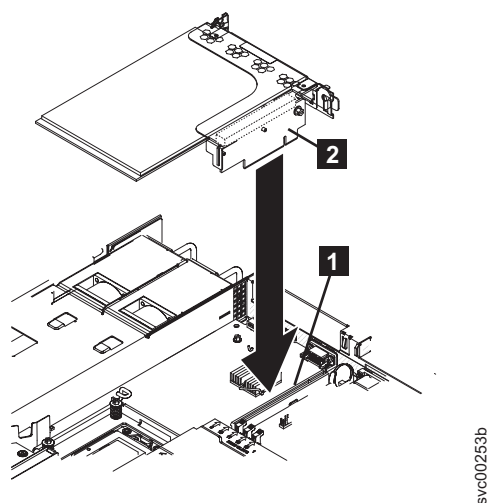

Figure 190. Replacing the high-speed SAS riser-card assembly for the SAN Volume Controller 2145-CF8
3. As you start inserting the adapter, align the edge connector on the low-profile adapter **1** with the connector **3** on the riser-card assembly **4**. Make sure that the adapter snaps into the riser-card securely. Press the riser-card edge connector firmly into the system-board connector **5**, as shown in Figure 190.